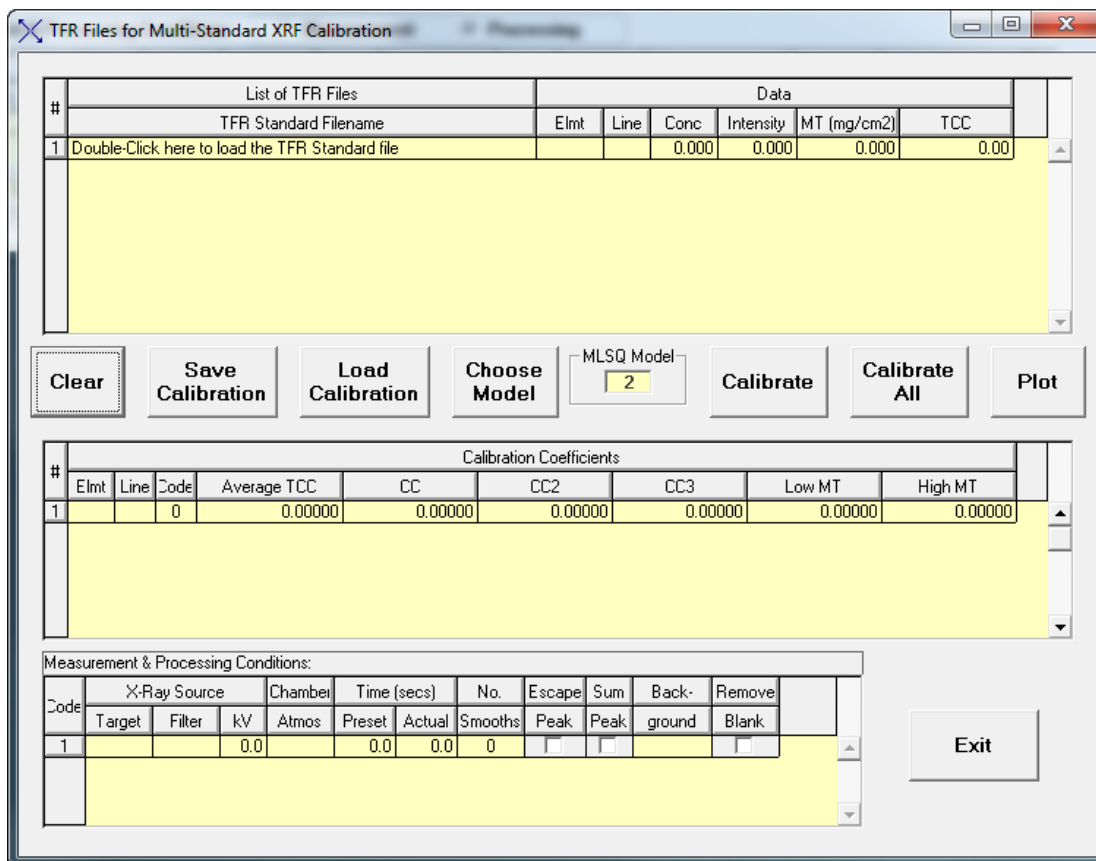

Figure 5. TFR Files for Multi-Standard XRF Calibration. Dialog displayed from the “Calibrate -> MLSQ” menu item.
10. Now Select: **Calibrate** -> **MLSQ** from the XRS-FP Expert Panel. This will bring up the dialog, “TFR Files for Multi-Standard XRF Calibration”, shown below in Figure 5.